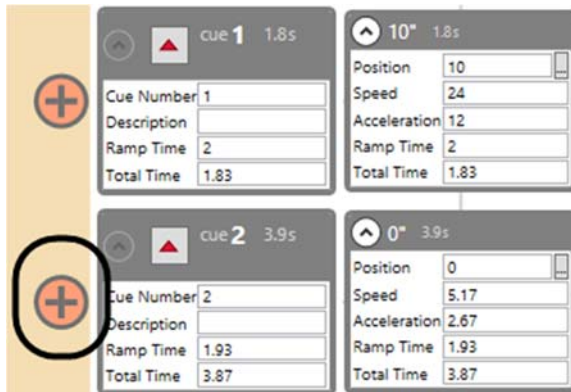

Figure 240
1. Click the **Add Link** button next to the **Child Cue** (Figure 240).